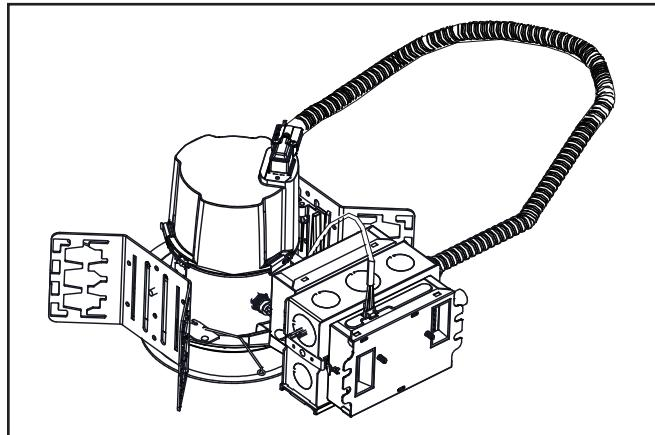
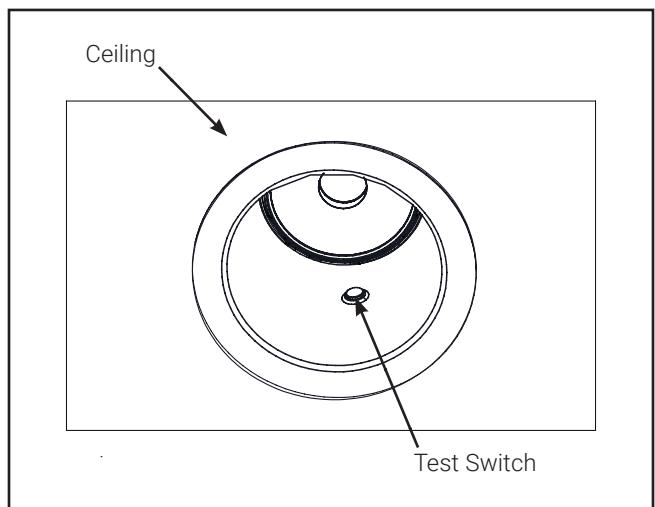

Figure 7.
Figure 8.
5. Install trim and module to housing (Figure 7, Figure 8).